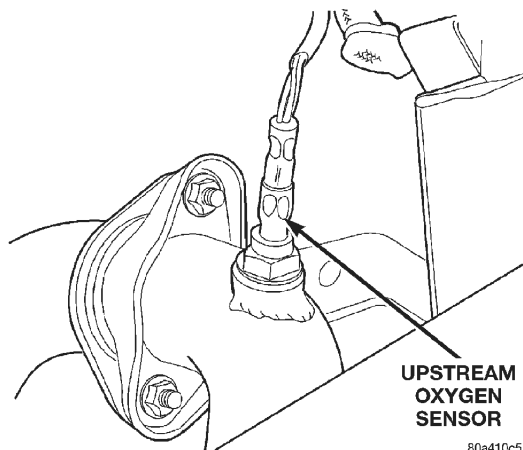
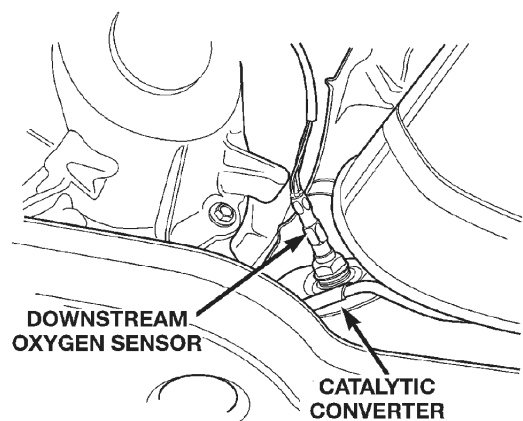

Fig. 23 Upstream Oxygen Sensor
Fig. 24 Downstream Oxygen Sensor
(20) Raise and support vehicle.
(21) Verify that both oxygen sensor wire connectors are firmly connected to sensors. Inspect sensors and connectors for damage (Fig. 23) or (Fig. 24).